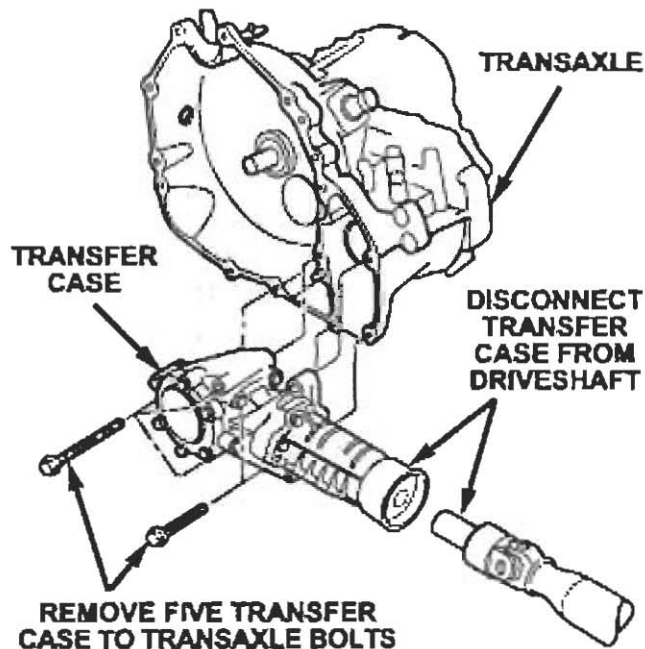

Figure 27
7. Remove the five bolts that secure the transfer case to the transaxle (Figure 27).
9. Remove the transfer case from the transaxle by tilting the case downward, then disconnect the transfer case from the drive shaft (Figure 27). Set the transfer case aside for return to the Warranty Material Return Center.
16. Insert the driveshaft into the transfer case and then mount the transfer case onto the transaxle (Figure 27).
17. Install the transfer case mounting bolts and tighten the mounting bolts to 65 ft-lbs (87 N·m) (Figure 27). Remove the temporary driveshaft support.